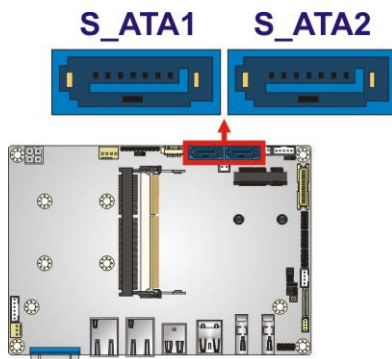

Figure 4-14: SATA Drive Connector Locations
- CN Location: See **Figure 4-14**